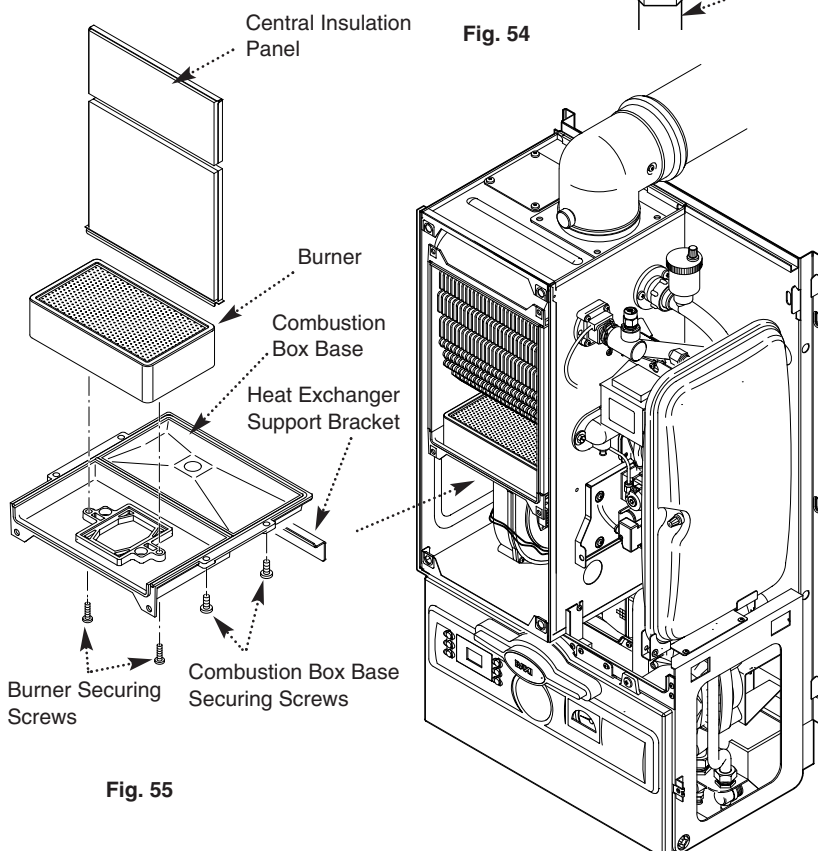

Fig. 55
- f) Remove the two screws securing the burner and remove the burner. Visually inspect the internal burner baffle for obstruction (Fig. 55).
NOTE: The burner skin is fragile - handle with care. Clean and if necessary replace the burner (Fig. 55).
- g) Loosen the two screws retaining the heat exchanger support bracket and slide to the left to remove (Fig. 55).
- i) Lower the central insulation panels and check condition (Fig. 55). Replace the insulation pads if necessary.